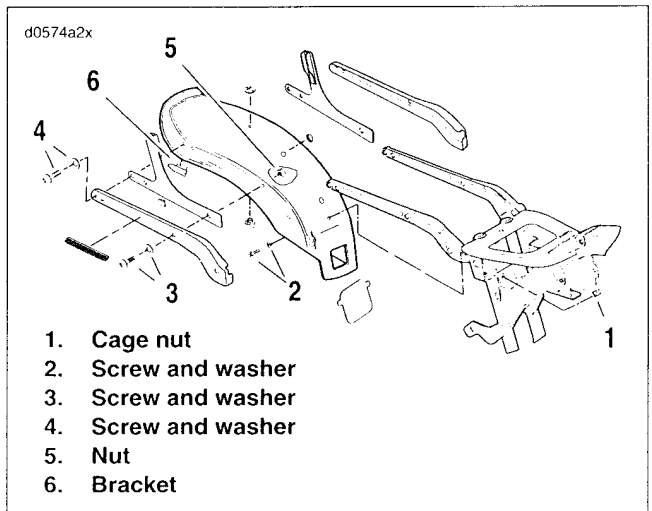

Figure 2-120. Rear Fender: FXDWG
1. See Figure 2-120. From under fender, remove screw and washer (2) securing front of fender to cage nut (1) on frame.
3. Remove screws and washers (4) from rear holes in fender support. Remove license plate bracket from fender.
4. Remove remaining screws/washers (3) and nuts (5) that hold fender in place and carefully remove fender and sideplates.
2. See Figure 2-120. Place fender and sideplates into position. Apply LOCTITE THREADLOCKER 243 (blue) to screw (3) threads. Tighten nuts (5) to 12-18 ft-lbs (16.3-24.4 Nm).
4. Attach front of fender to frame with screw/washer (2) and cage nut (1).
5. Attach license plate bracket to fender with screws and washers (4).